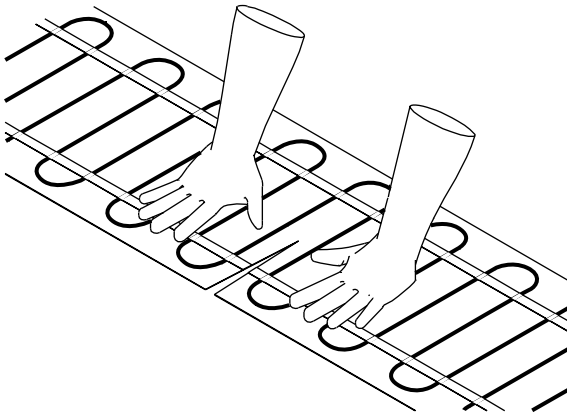

Fig. 4.4.2
- If the mat ripples, score the center of the rippled section and flatten the edges (fig. 4.4.2).